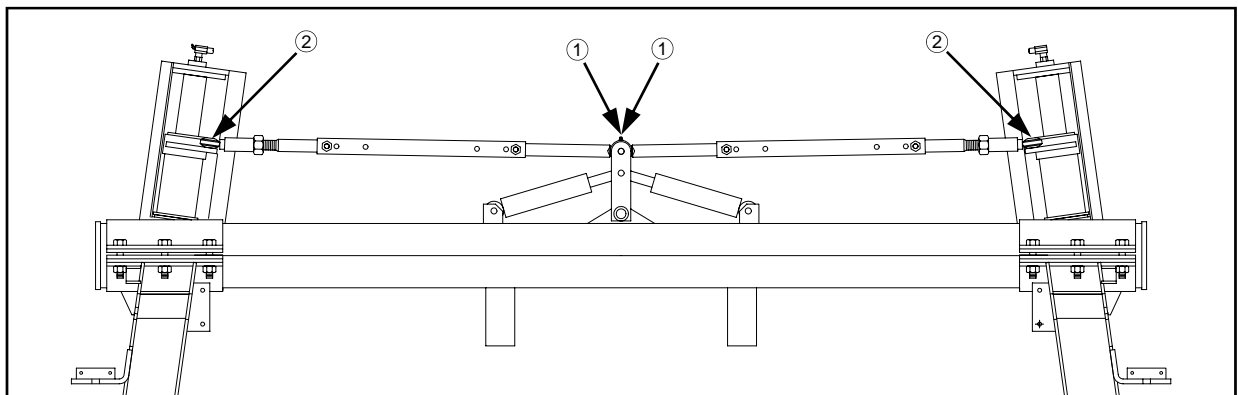

FIG 7.35
To steer, the inner leg weldment also pivots inside the outer leg weldment. The tie rods connected to the steering legs have grease zerks on both each inner tie rod end (fig 7.35, item 1) and each outer tie rod end (fig. 7.35, item 2). To maintain freely operating steering, they should be greased every 50 hours; check tie rod linkage daily.